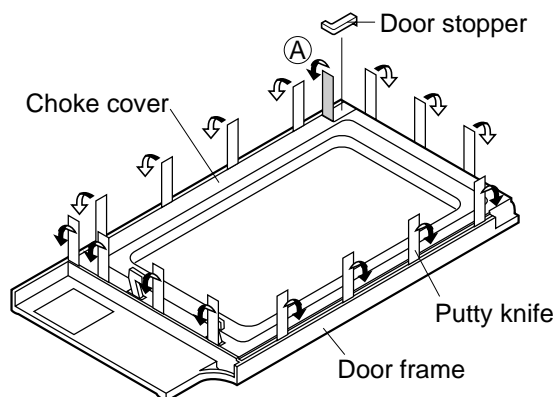

Figure C-3. Door Disassembly
4. Remove the three (3) screws holding the hood exhaust louver to the oven cavity front face plate.
6. Insert a putty knife (thickness of about 0.5mm) into the gap (A) between the door stopper and the choke cover as shown in Figure C-3 to free engaging parts.
8. Insert a putty knife (thickness of about 0.5mm) into the gap (A) between the choke cover and door stopper and between the choke cover and the door frame as shown Figure C-3 to free engaging parts.
9. Pry the choke cover by inserting a putty knife in order shown in Figure C-3.